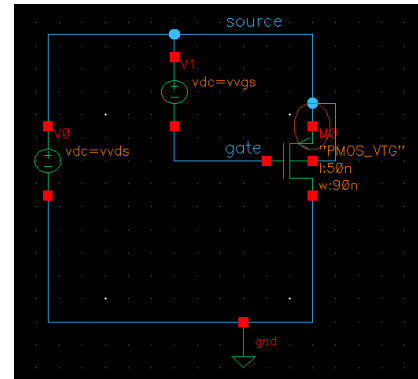

Figure 32: PMOS schematic
1. The schematic of a PMOS circuit is shown in Figure 32 . The bulk is connected to V_{DD} instead of GND.